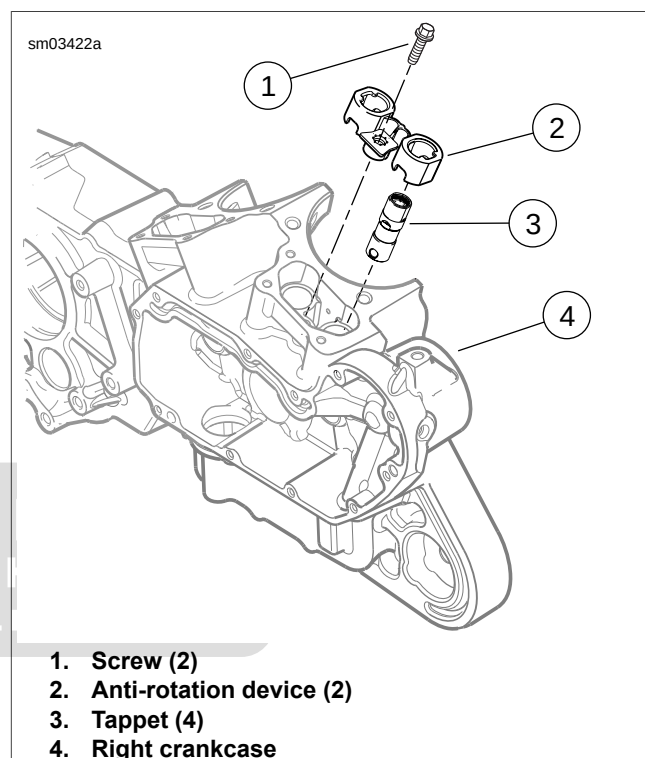

Figure 3-105. Tappet Components
1. See Figure 3-105. Remove screw (1).
2. Remove anti-rotation device (2). Tag anti-rotation device for location (front/rear cylinder) as it is removed.
3. Remove tappet (3). Tag tappet for location (front/rear cylinder) and function (intake/exhaust) as it is removed. This will simplify installation.